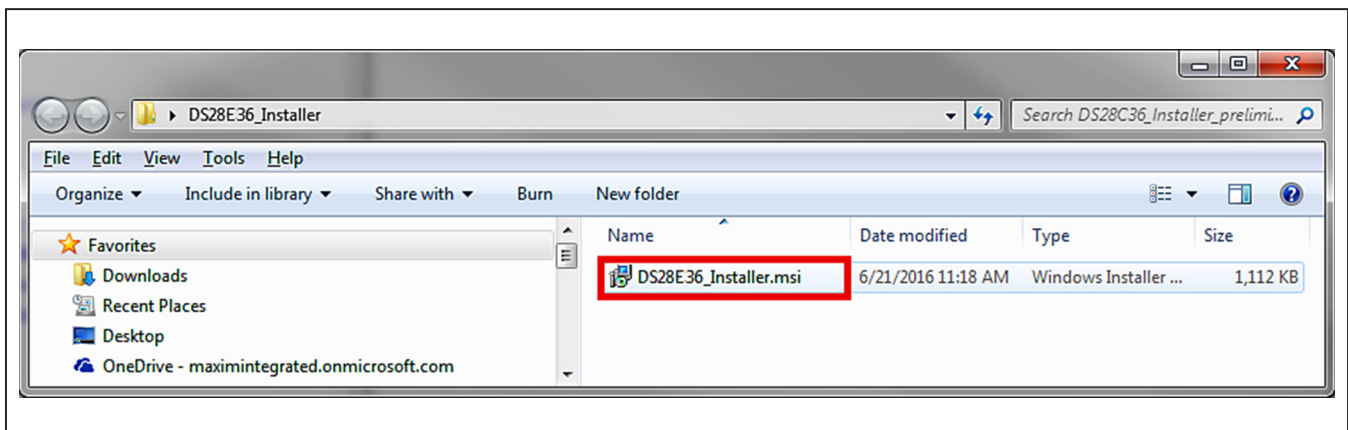

Figure 2. File Viewer
- 2) In a file viewer, double click on **DS28E36_Installer.msi** to begin the installation (Figure 2).